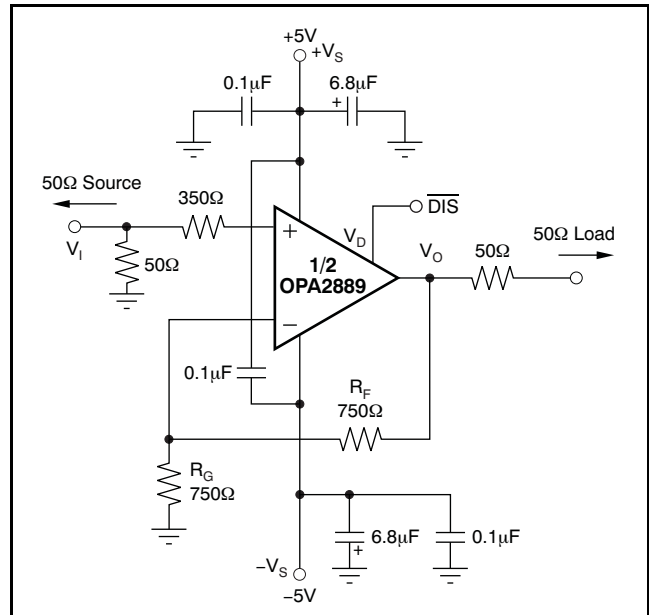
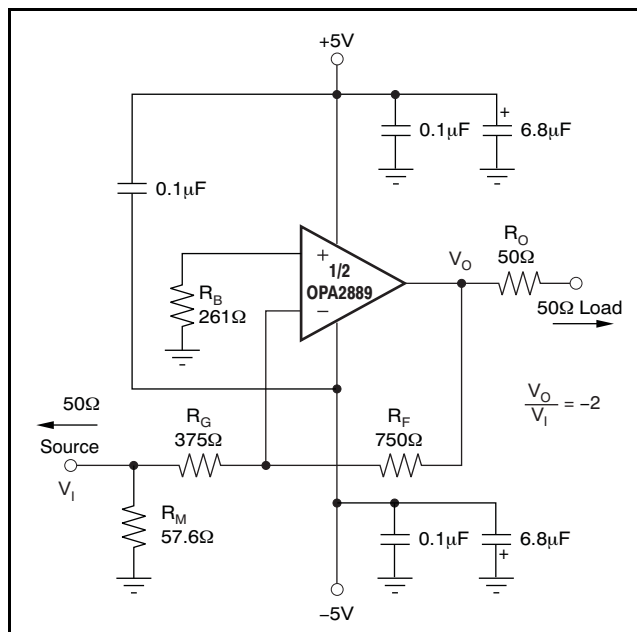

Figure 50. DC-Coupled, G = +2, Bipolar Supply, Specification and Test Circuit
Figure 60. Gain of –2V/V Example Circuit
At $T_A = +25^\circ C$, $G = +2V/V$, $R_F = 750\Omega$, and $R_L = 100\Omega$, unless otherwise noted. See Figure 50.
Figure 50 shows the dc-coupled, gain of +2V/V, dual power-supply circuit configuration used as the basis of the ±5V Electrical Characteristics and ±5V Typical Characteristics. This illustration is for one channel; the other channel is connected similarly. For test purposes, the input impedance is set to 50Ω with a resistor to ground and the output impedance is set to 100Ω. Voltage swings reported in the Electrical Characteristics are taken directly at the input and output pins, while output powers (dBm) are at the matched 50Ω load. For the circuit of Figure 50, the total effective load will be 100Ω || 1.5kΩ. The disable control line (MSOP-10 package only) is typically left open for normal amplifier operation. Two optional components are included in Figure 50. An additional resistor (350Ω) is included in series with the noninverting input. Combined with the 25Ω dc source resistance looking back towards the signal generator, this resistor gives an input bias current cancelling resistance that matches the 375Ω source resistance seen at the inverting input (see the DC Accuracy and Offset Control section). In addition to the usual power-supply decoupling capacitors to ground, a 0.1μF capacitor is included between the two power-supply pins. In practical printed circuit board (PCB) layouts, this optional-added capacitor typically improves the 2nd-harmonic distortion performance by 3dB to 6dB.
A good rule of thumb is to target the parallel combination of R_F and R_G (see Figure 50) to be less than approximately 400Ω. The combined impedance $R_F \parallel R_G$ interacts with the inverting input capacitance, placing an additional pole in the feedback network and thus, a zero in the forward response. Assuming a 2pF total parasitic on the inverting node, holding $R_F \parallel R_G < 400\Omega$ keeps this pole above 160MHz. By itself, this constraint implies that the feedback resistor R_F can increase to several kΩ at high gains. This increase in resistor size is acceptable as long as the pole formed by R_F and any parasitic capacitance appearing in parallel is kept out of the frequency range of interest.
Voltage-feedback op amps exhibit decreasing closed-loop bandwidth as the signal gain increases. In theory, this relationship is described by the Gain Bandwidth Product (GBP) shown in the Electrical Characteristics. Ideally, dividing GBP by the noninverting signal gain (also called the Noise Gain, or NG) predicts the closed-loop bandwidth. In practice, this principle only holds true when the phase margin approaches 90°, as it does in high gain configurations. At low gains (increased feedback factors), most amplifiers exhibit a more complex response with lower phase margin. The OPA2889 is compensated to give a slightly peaked response in a noninverting gain of 2V/V (see Figure 50). This compensation results in a typical gain of +2V/V bandwidth of 60MHz, far exceeding that predicted by dividing the 75MHz GBP by 2. Increasing the gain causes the phase margin to approach 90° and the bandwidth to more closely approach the predicted value of (GBP/NG). At a gain of +10, the 8MHz bandwidth shown in the Electrical Characteristics agrees closely with that predicted using the simple formula and the typical GBP of 75MHz.
The frequency response in a gain of +2V/V may be modified to achieve exceptional flatness simply by increasing the noise gain to 2.5V/V. One way to modify the response without affecting the +2V/V signal gain, is to add a 750Ω resistor across the two inputs, as shown in the circuit of Figure 50. A similar technique may be used to reduce peaking in unity-gain (voltage follower) applications. For example, by using a 750Ω feedback resistor along
The OPA2889 is a general-purpose, wideband, voltage-feedback op amp; therefore, all of the familiar op amp application circuits are available to the designer. Inverting operation is one of the more common requirements and offers several performance benefits. See Figure 60 for a typical inverting configuration where the I/O impedances and signal gain from Figure 50 are retained in an inverting circuit configuration.
In the inverting configuration, three key design considerations must be noted. The first is that the gain resistor (R_G) becomes part of the signal channel input impedance. If input impedance matching is desired (which is beneficial whenever the signal is coupled through a cable, twisted-pair, long PCB trace, or other transmission line conductor), R_G may be set equal to the required termination value and R_F adjusted to give the desired gain. This consideration is the simplest approach and results in optimum bandwidth and noise performance. However, at low inverting gains, the resultant feedback resistor value can present a significant load to the amplifier output. For an inverting gain of –2V/V, setting R_G to 50Ω for input matching eliminates the need for R_M but requires a 100Ω feedback resistor. This approach has the interesting advantage that the noise gain becomes equal to 2V/V for a 50Ω source impedance—the same as the noninverting circuits considered in Figure 60. The amplifier output, however, now sees the 100Ω feedback resistor in parallel with the external load. In general, the feedback resistor should be limited to the 200Ω to 1.5kΩ range. In this case, it is preferable to increase both the R_F and R_G values (see Figure 60), and then achieve the input matching impedance with a third resistor (R_M) to ground. The total input impedance becomes the parallel combination of R_G and R_M .
The second major consideration, touched on in the previous paragraph, is that the signal source impedance becomes part of the noise gain equation and influences the bandwidth. For the example in Figure 60, the R_M value combined in parallel with the external 50Ω source impedance yields an effective driving impedance of $50\Omega \parallel 57.6\Omega = 26.7\Omega$. This impedance is added in series with R_G for calculating the noise gain (NG). The resulting NG is 2.86V/V for Figure 60, as opposed to only 2V/V if R_M could be eliminated as discussed above. Therefore, the bandwidth is slightly lower for the gain of –2V/V circuit of Figure 60 than for the gain of +2V/V circuit of Figure 50.
The third important consideration in inverting amplifier design is setting the bias current cancellation resistor on the noninverting input (R_B). If this resistor is set equal to the total dc resistance looking out of the inverting node, the output dc error, as a result of the input bias currents, is reduced to (Input Offset Current) × R_F . If the 50Ω source impedance is dc-coupled in Figure 60, the total resistance to ground on the inverting input is 402Ω.
The OPA2889 provides good distortion performance into a 200Ω load on $\pm 5V$ supplies. Relative to alternative solutions, it provides exceptional performance into lighter loads and/or operating on a single +5V supply. Generally, until the fundamental signal reaches very high frequency or power levels, the 2nd-harmonic dominates the distortion with a negligible 3rd-harmonic component. Focusing then on the 2nd-harmonic, increasing the load impedance improves distortion directly. Remember that the total load includes the feedback network; in the noninverting configuration (see Figure 50), this total is the sum of $R_F + R_G$, while in the inverting configuration it is just R_F . Also, providing an additional supply-decoupling capacitor ($0.1\mu F$) between the supply pins (for bipolar operation) improves the 2nd-order distortion slightly (3dB to 6dB). Operating differentially also lowers 2nd-harmonic distortion terms (see the plot on the front page).
As a worst-case example, compute the maximum T_J using an OPA2889ID (SO-8 package) in the circuit of Figure 50 operating at the maximum specified ambient temperature of +85°C and with both outputs driving a grounded 75Ω load to +2.5V.